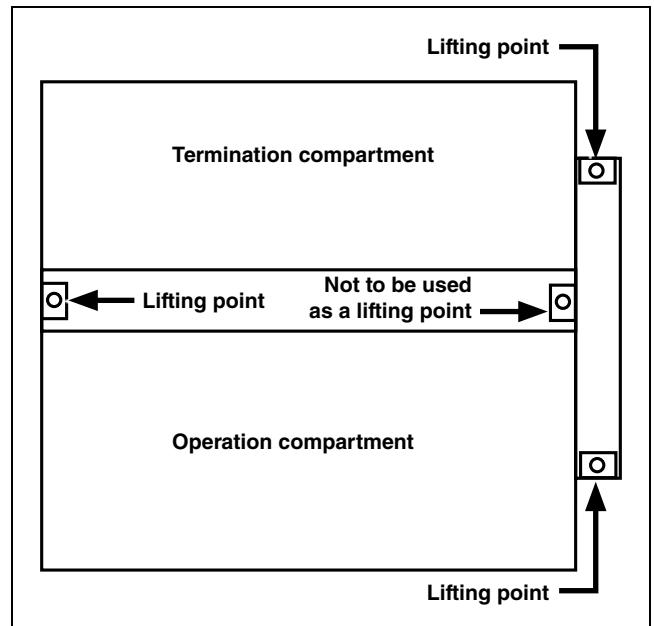

Figure 10. A top view of pad-mounted style switchgear, displaying three-point lifting.
STEP 7. Remove the enclosure, observing the precautions given under the “Handling” section on page 8 Use a three-point lifting scheme to properly balance the enclosure. See Figure 10.